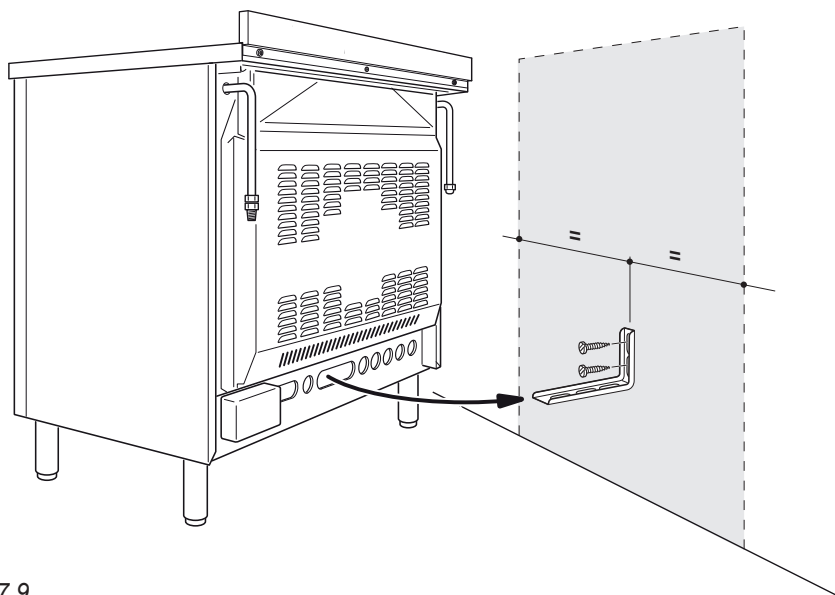

Fig. 7.9
1. After you have located where the cooker is to be positioned, mark on the wall the place where the 2 screws of the anti-tilt bracket have to be fitted. Please follow the indications given in fig. 7.9.
4. Move the cooker to the wall and adjust the height of the anti-tilt bracket so that it can engage in the slot on the cooker's back, as shown in fig. 7.9.